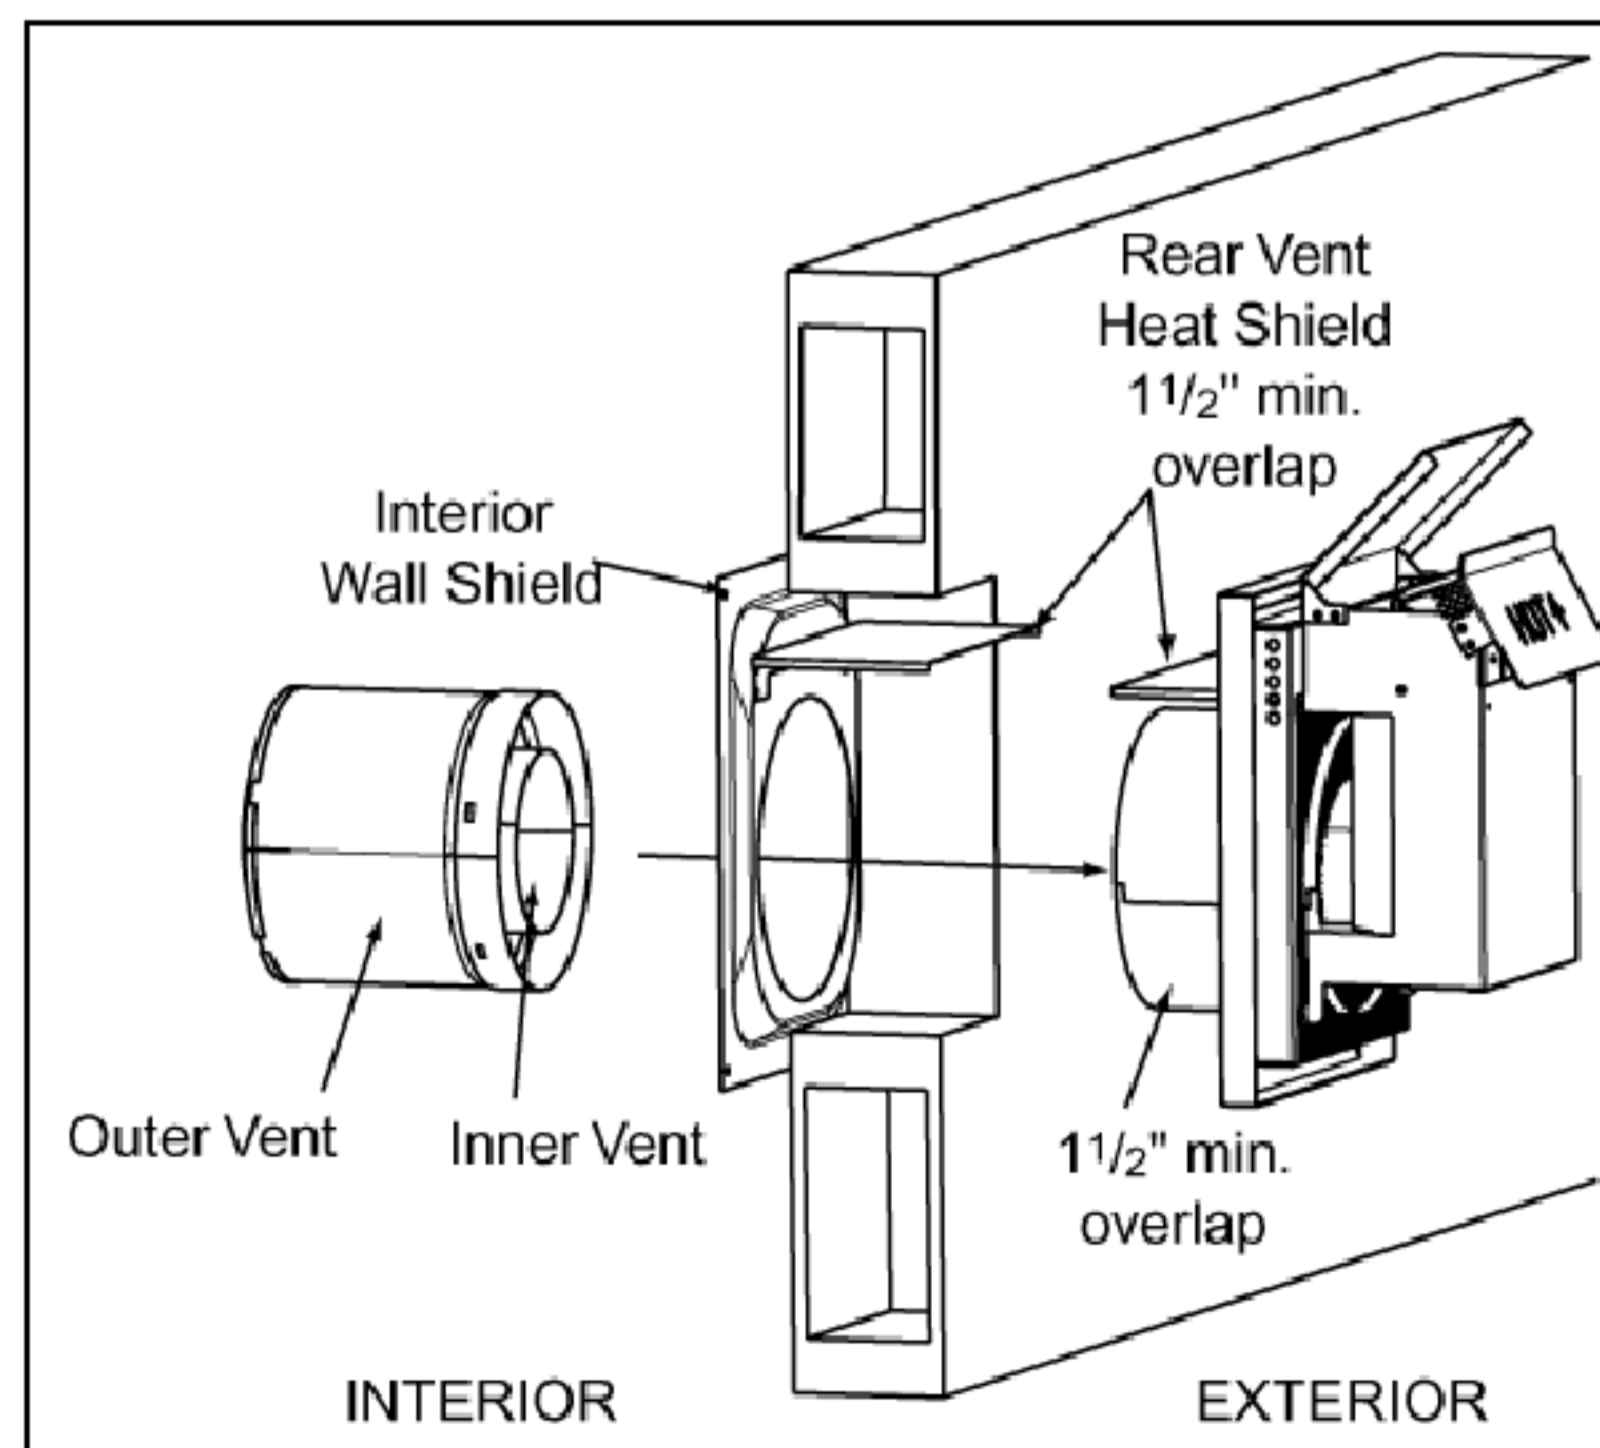

Figure 27 - Venting Through the Wall
The last section of vent may require cutting a piece of minimum installation (MI) pipe or using a slip section pipe, depending upon wall thickness and appliance location. See Figure 27.
- a. For horizontally terminated rear vent appliances, the flue heat shields **MUST** be placed 1" above the top of the vent between the wall shield and the base of the termination cap. The shields are attached to the wall shield and base of the cap with two screws each. When installed, the cap's shield will rest under the wall shield's shield. The shields must have at least 1½" overlap. See Figure 27. Depending on the installation, the shields may be too long and will require trimming. If the shields are too short, material must be added.